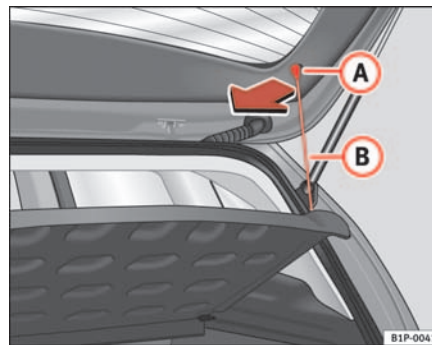

Fig. 102 Luggage compartment cover
- Disengage the loops ⇒ fig. 102 B from the retaining pins A.